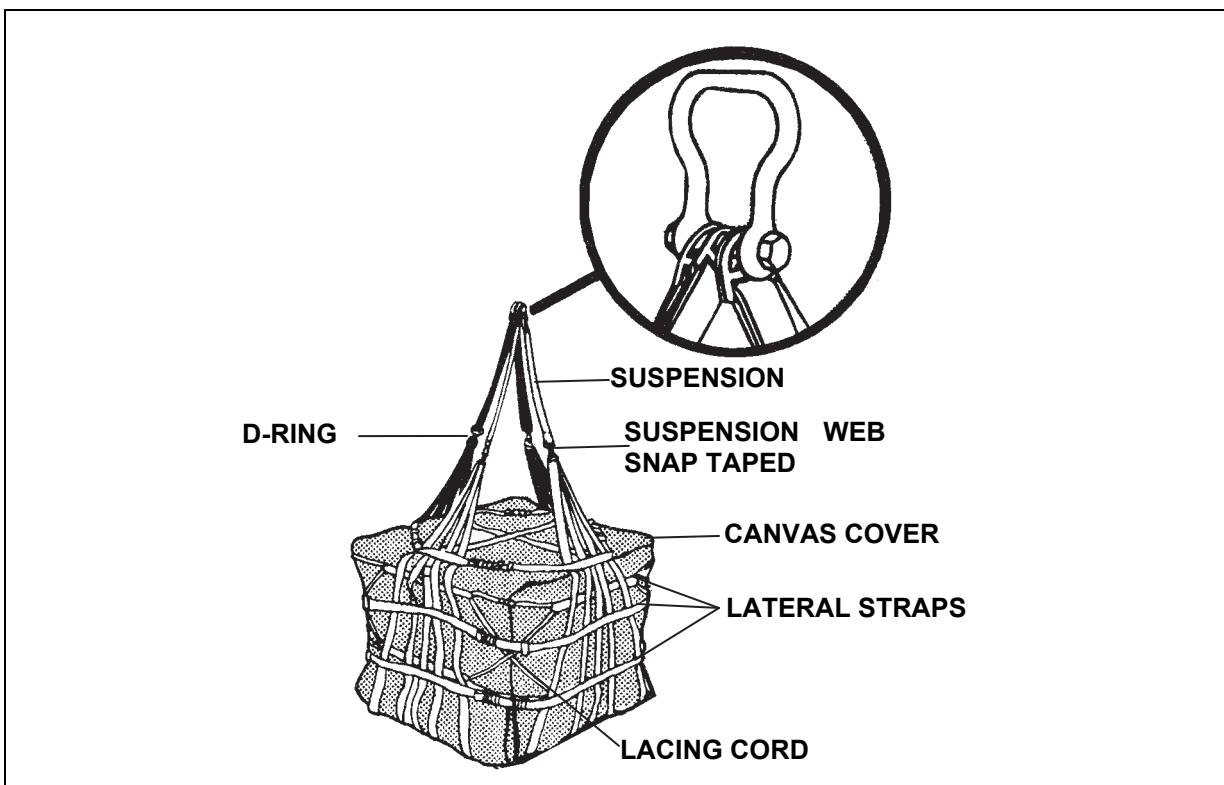

Figure 8-6. Suspension Webs and Medium Suspension Clevis
- **Attaching the Suspension Clevis.** Attach the four suspension web strap D-rings to a medium clevis in a clockwise sequence. Tape the nut with pressure-sensitive tape. Each strap can have a maximum of one quarter twist to connect to the clevis (figure 8-6).